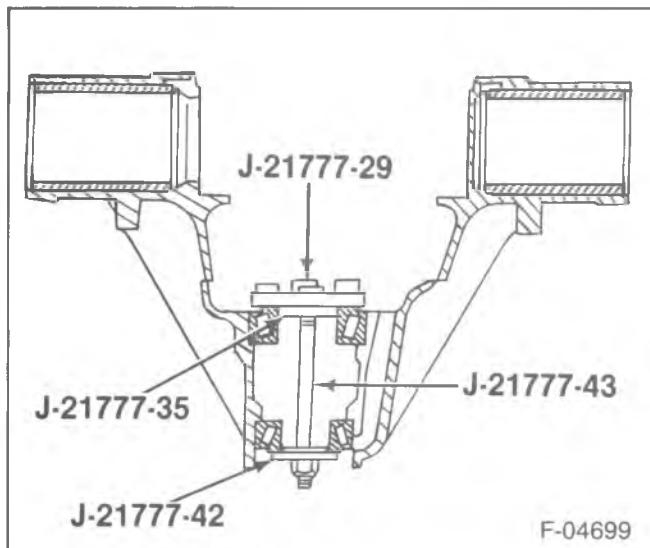

Figure 28—Gage Plate Components
3. Place the bearings (39) and (5) into the pinion bearing cups.
4. Install J-21777-35, J-21777-42, J-21777-29 and J-21777-43 to the pinion bore (figure 28).